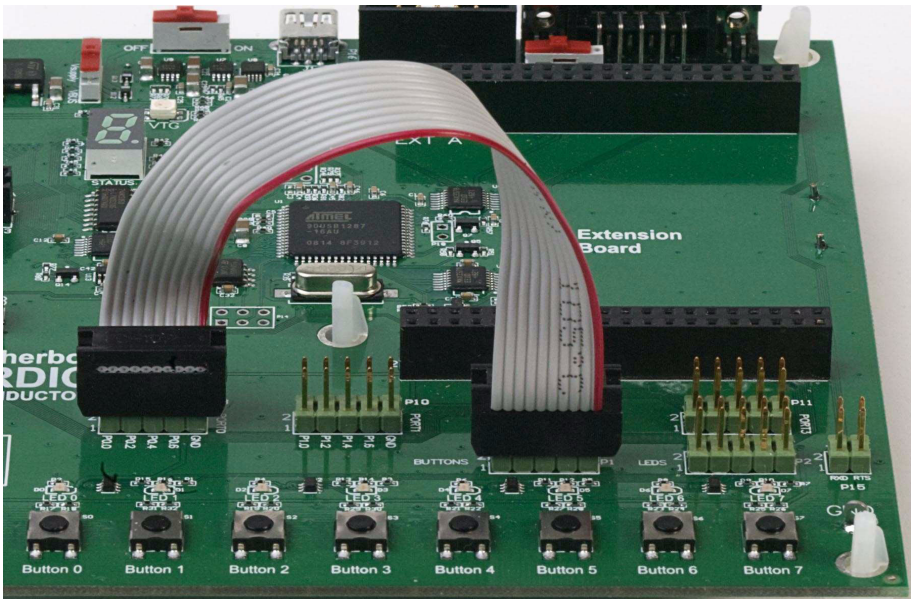

Figure 7. Connection of nRFgo Motherboard buttons to an IO header
Eight buttons (⑪ in Figure 2.) are provided on the Motherboard to offer you a simple way to give device feedback during development. The buttons are connected to the Button header (P1, ⑧ in Figure 2.). One of the 10-way ribbon or patch cables supplied in the nRFgo Starter Kit is used to connect the Button header (P1) to the wanted device port or pin found in the IO headers (P8-P11), illustrated in Figure 7.